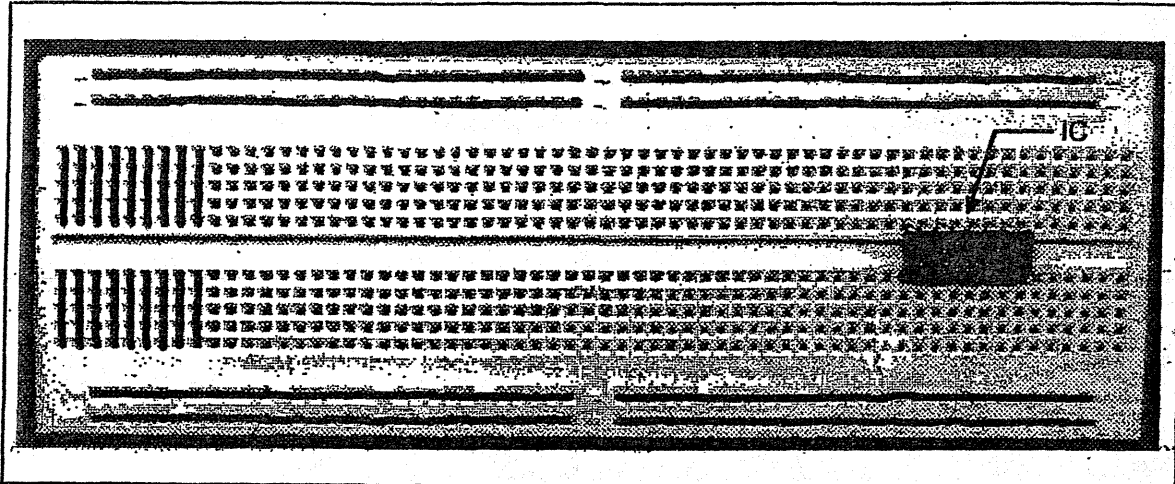

Figure 1.1: Breadboard with a Placed Integrated Circuit
A breadboard is a device used to interconnect electronic circuits. As shown in Figure 1.1, the breadboard consists of many holes in which circuit components (i.e. ICs, resistors, capacitors, etc.) are inserted. A breadboard is connected internally via strips of metal. This facilitates the connection between components and permits the use of data and power buses. Figure 1.1 illustrates the internal connectivity of the holes.
Dual Inline Package (DIP) Integrated circuit (IC) components are inserted into the breadboard holes as shown in Figure 1.1. Note that the vertical connections do not cross the horizontal gap in the center of the breadboard.